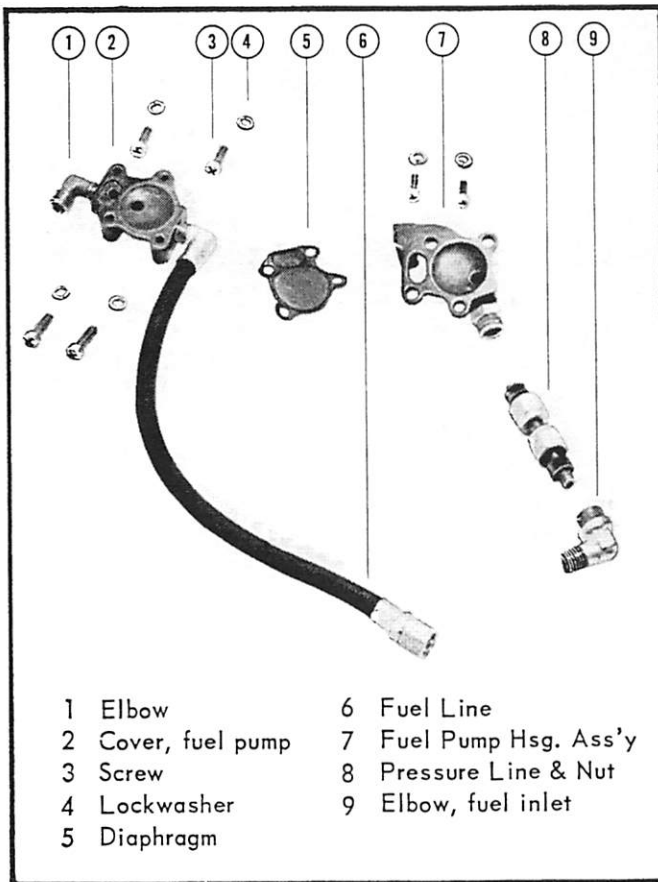

Figure 13. Mark 6 Fuel Pump
- Crankcase pulsating pressure is transferred to fuel pump diaphragm via line from fuel transfer cover on cylinder block which in turn draws fuel from fuel tank. (Figure 13)